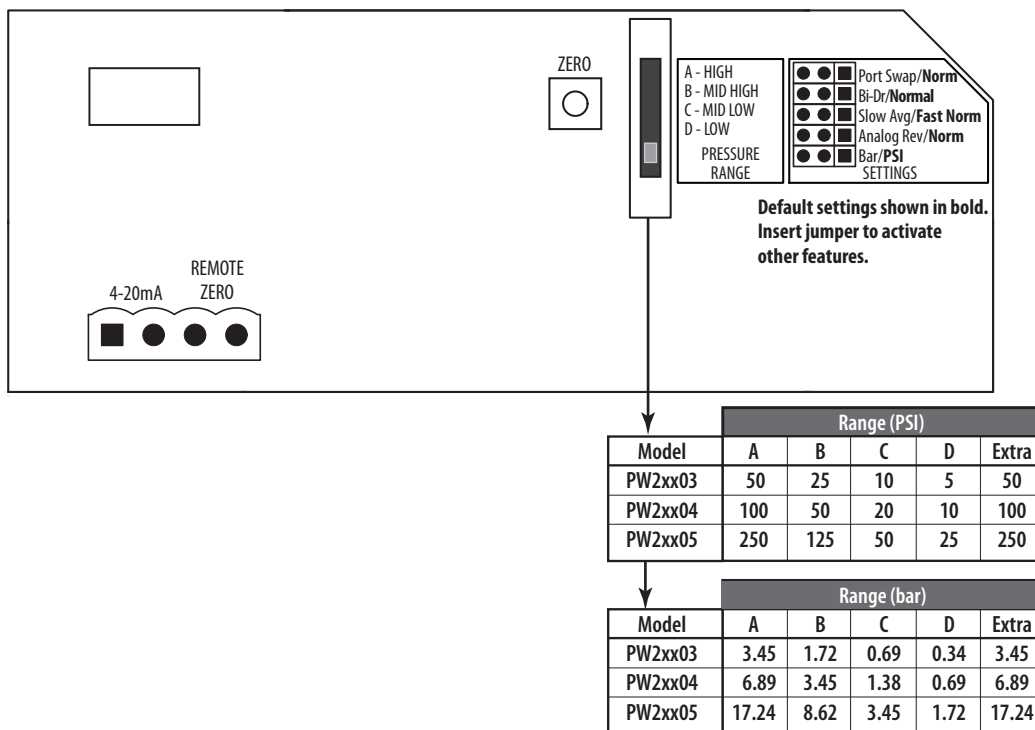

Figure 1: PW2 Configuration with 5-Position Switch
2. Look at the range selection switch. The switch body will extend toward the center of the PCB past the silkscreen square around the “PRESSURE RANGE” text (see Figure 1).